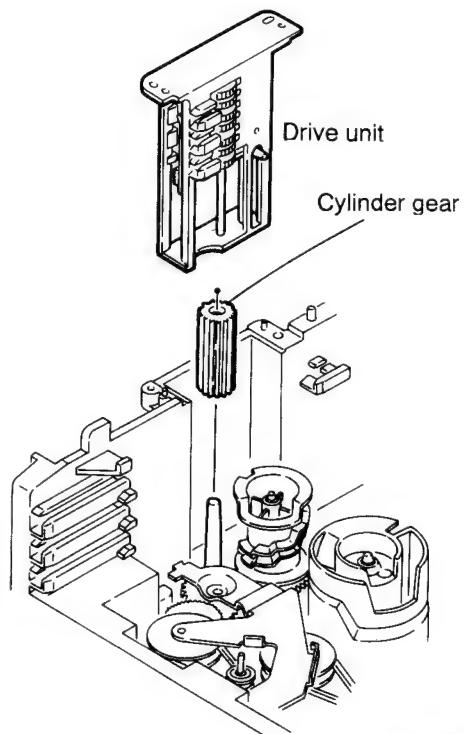

Fig. 5-38
- Pull out the drive unit and cylinder gear (See Fig. 5-38).